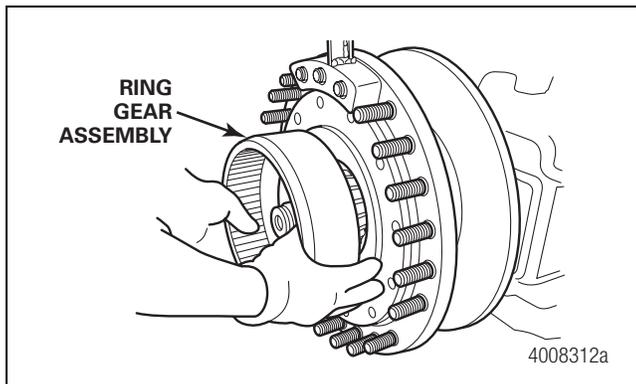

Figure 8.15
4. Install the ring gear assembly onto the spindle. Figure 8.15.